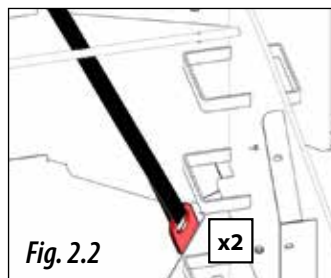

Fig. 2.2
- **Front:** two straps attached to the points provided on the inside of the hopper front (Fig. 2.2).